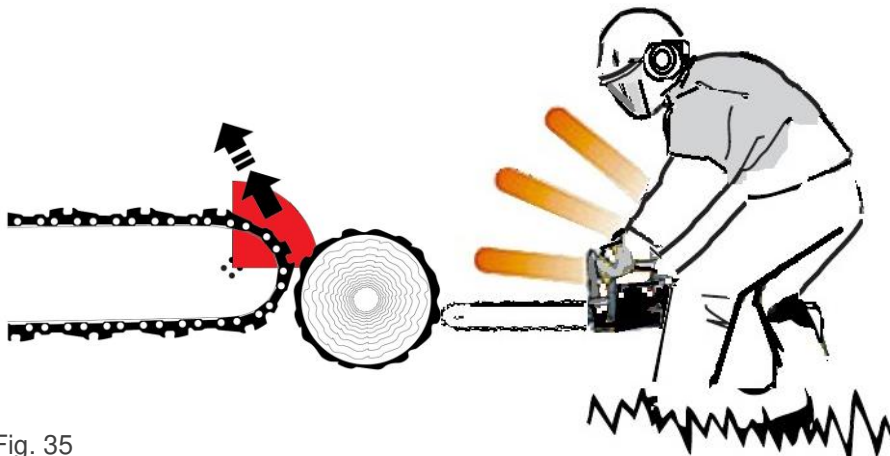

Fig. 35
- the chain hits wood or a hard object in the upper quarter of the bar nose. (see fig. 35),